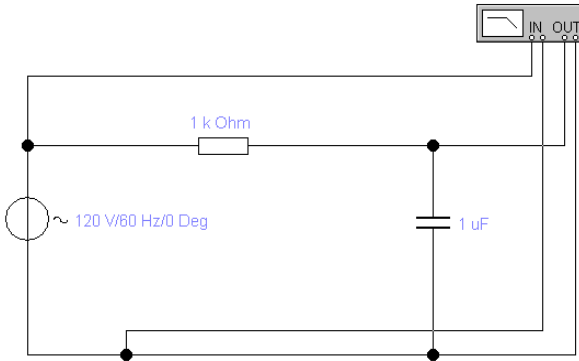

Figure 8.4 – Low pass filter
1. Draw a pattern of fig. 8.4.